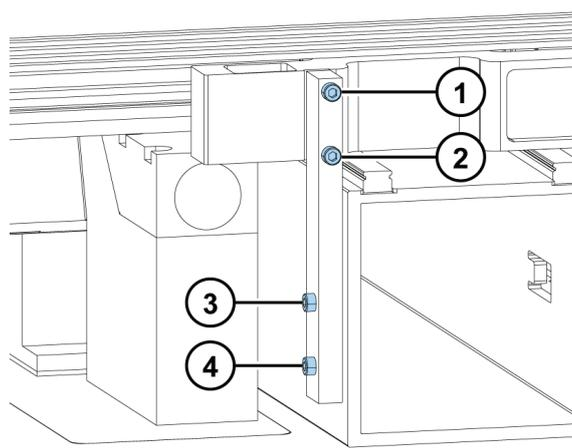

Figure 3–22 Tray holder screws (1 and 2) and track mechanism bar screws (3 and 4) on the transport lock.
- Turn the transport lock into its horizontal storage position (Figure 3–23).